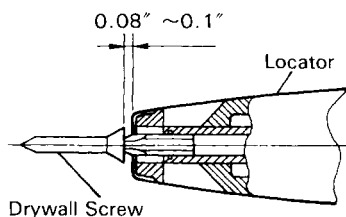

Fig. 4
#### (1) For drywall screws (Fig.4)